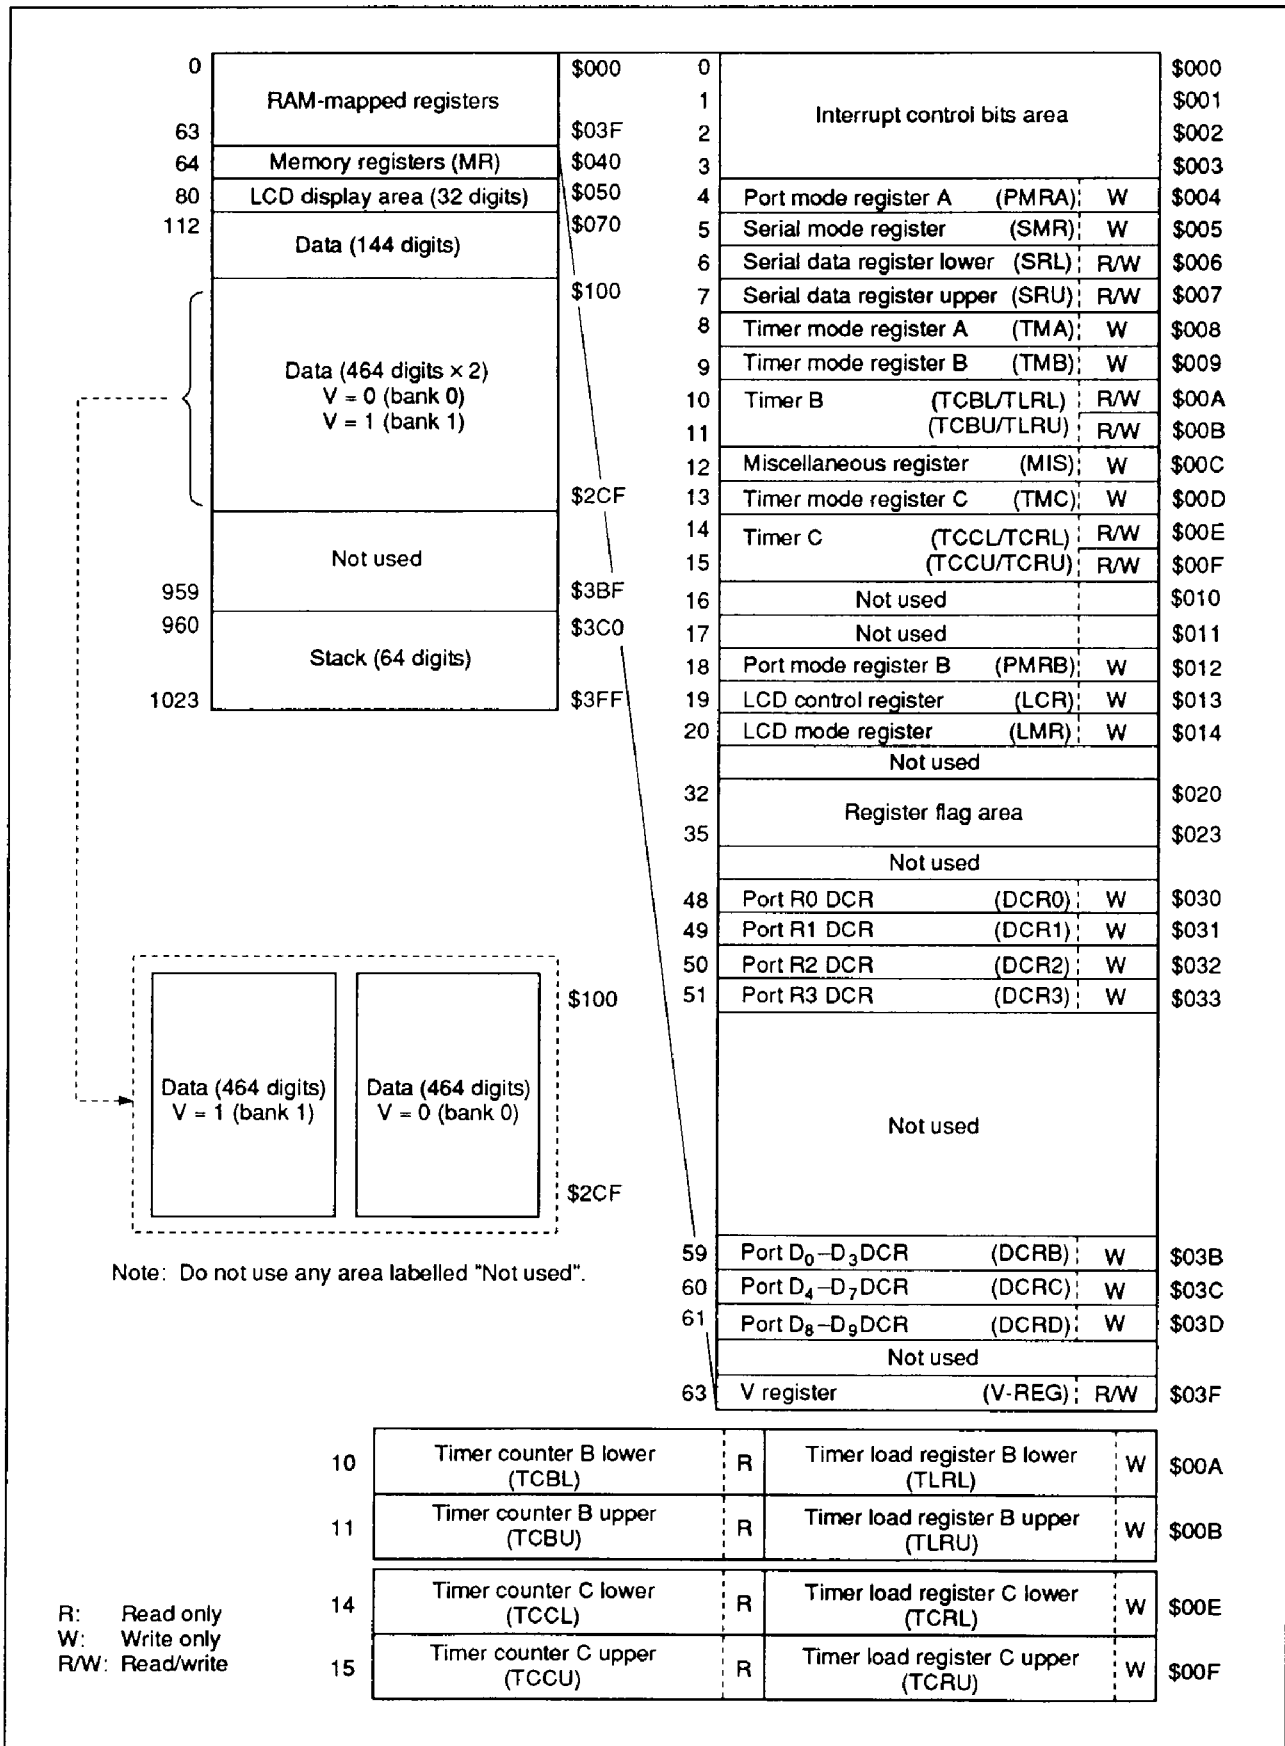

Figure 2 RAM Memory Map
The MCU also contains a 1,184-digit  $\times$  4-bit RAM as the data and stack area. In addition to these areas, interrupt control bits and special function registers are mapped on the RAM memory space. The RAM memory map (figure 2) is described in the following paragraphs.
**Special Function Registers Area (\$004 to \$01F, \$024 to \$03F):** The special function registers are the mode or data registers for the serial interface, timer/counters, LCD, and the data control registers for the I/O ports. These registers are classified into three types: write-only, read-only, and read/write as shown in figure 2.